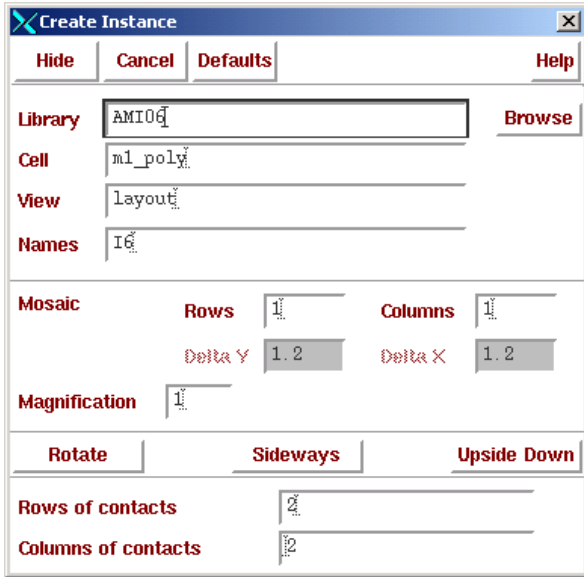

Figure 77: Metal1 to Poly Contact.
1. For the metal1 poly contact, in the Create Instance pop-up, fill it out like Figure 77. Note the width is rounded to 18.9u by the software. Make sure you set the rows and columns to 2. This will ensure that even if there is a bad contact the input will still be connected. In addition, the resistance of the contact will be lower than the minimum sized device.